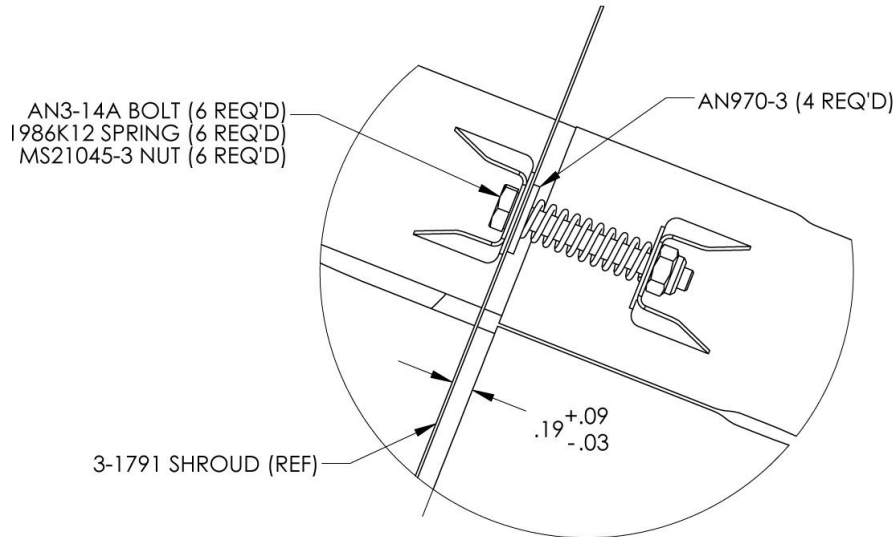

Figure 2, Original Slip Joint
6. Install AN3-14A bolts at slip joints per figure 2 (reuse or replace 6 bolts). If bushings were present, reinstall bushings (a longer AN3 bolt may be required). **DO NOT** over tighten bolt as cracking or distortion of bracket may occur. Bolt should be lightly tightened allowing for expansion and movement of the inner tube within the slip joint.